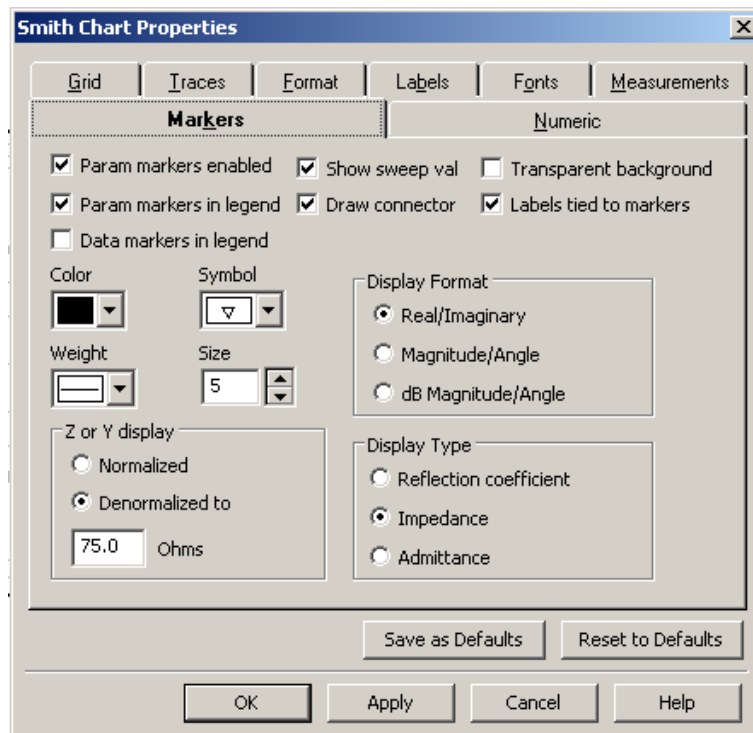

Figure 8.4: Chart 6 : Smith Chart Properties
- Ensure that your dialogue box looks like the one in figure 8.4.